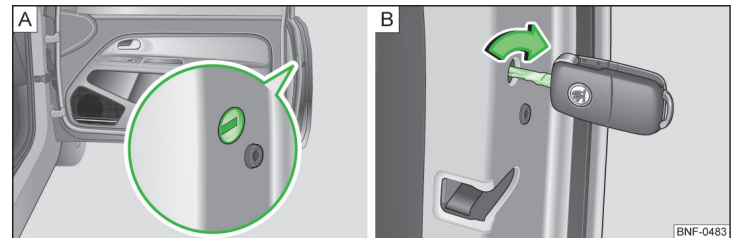

Fig. 120 Emergency locking: Front door right
- Insert the key into the slot » Fig. 120 - **A**.
- Turn the key in the right-hand door is in the horizontal position in the direction of arrow » Fig. 120 - **B** and turn it against the direction of the arrow for the left door.